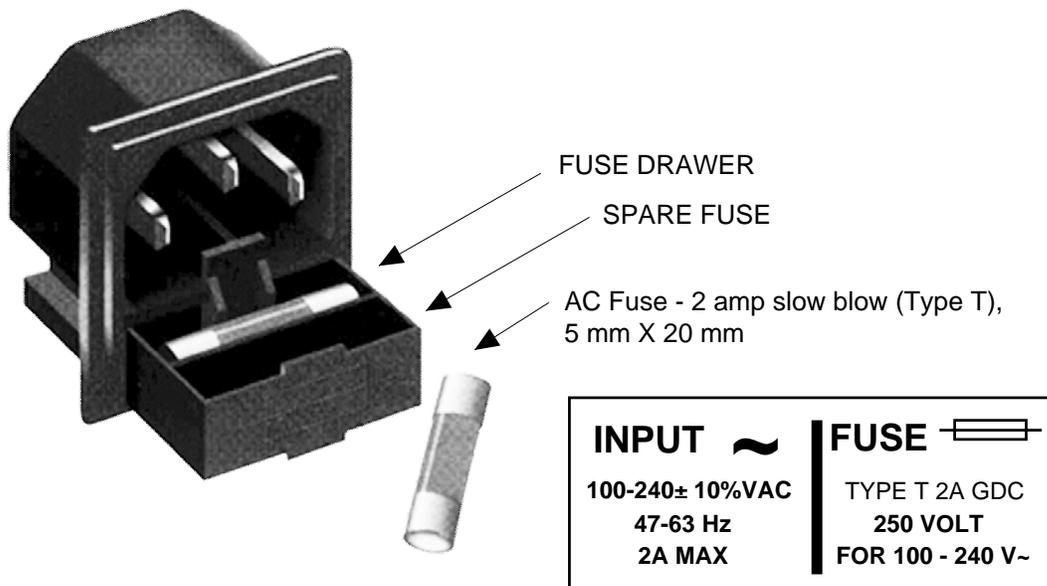

**FIGURE 2.2 2115-275-1845 Front Panel Controls and Indicators**
4. Be sure DS1 (green, DC Power) is on and DS2 (red, Alarm) is off (Figure 2.2).
6. If EXT is selected or AUTO is selected and there is a 10MHz, 3 dBm signal at J2, check that DS3 (yellow, Ext 10MHZ) is on (Figure 2.2).